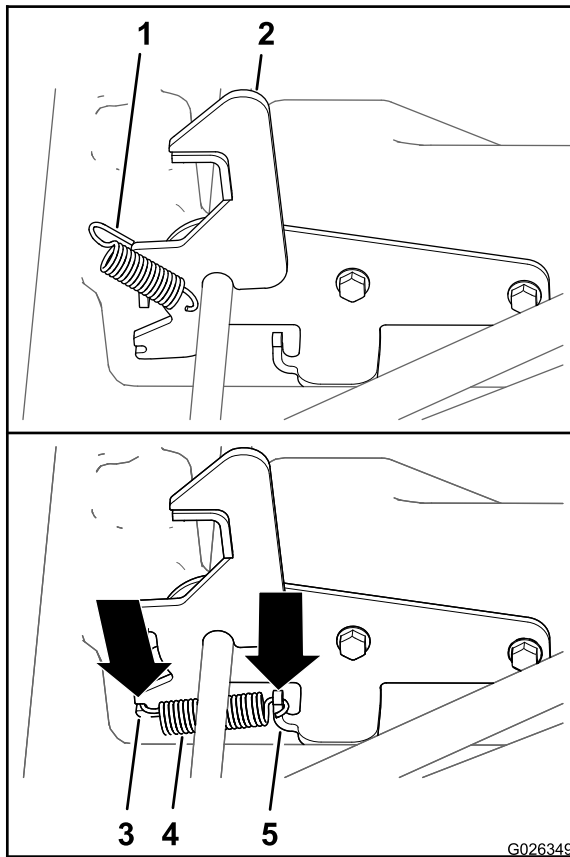

Figure 12
5. Align the long tang of a spring to the spring saddle of the latch assembly (Figure 12).
6. Connect the short tang of the spring to the spring post of the latch (Figure 12).
7. Repeat steps 5 and 6 for the other latch and spring (Figure 12).